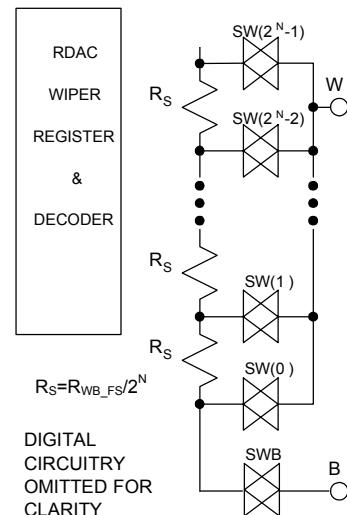

Figure 18.. Equivalent RDAC structure
Figure 18 shows an equivalent structure of the connections between the two terminals that make up one channel of an RDAC. The SWB switch will always be ON, while one of the switches SW(0) to SW(2N-1) will be ON at any given time depending on the resistance position decoded from the databits in the RDAC register.
The wiper first connection starts at the B terminal for data 000H.  $R_{WB}(0)$  is 50 $\Omega$  because of the wiper resistance and it is independent to the full-scale resistance. The second connection is the first tap point where  $R_{WB}(1)$  becomes  $48.8\Omega + 50 = 98.8\Omega$  for data 001H. The third connection is the next tap point representing  $R_{WB}(2)=97.6+50=147.6\Omega$  for data 002H and so on. Each LSB data value increase moves the wiper up the resistor ladder until the last tap point is reached at  $R_{WB}(512)=25001\Omega$ . See Figure 18 for a simplified diagram of the equivalent RDAC circuit.